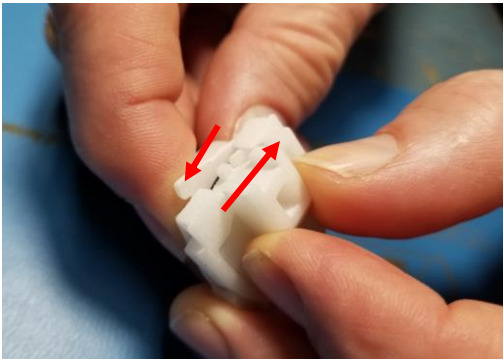
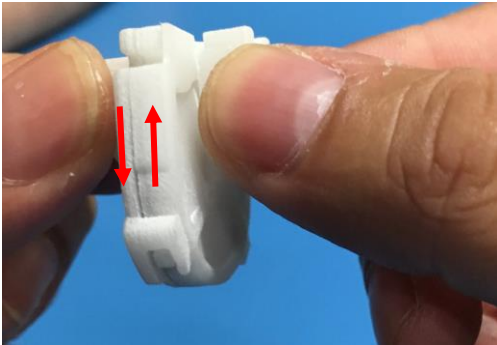

Figure 15. Twist the Cassette halves together until mounting tabs align
Figure 16. Mounting tabs aligned and filter Cassette ready to be re-attached to the filter Cassette cover
7. Twist the filter Cassette halves to latch them together. Turn them until the filter Cassette mounting tabs are aligned. See **Figure 15** and **Figure 16**.